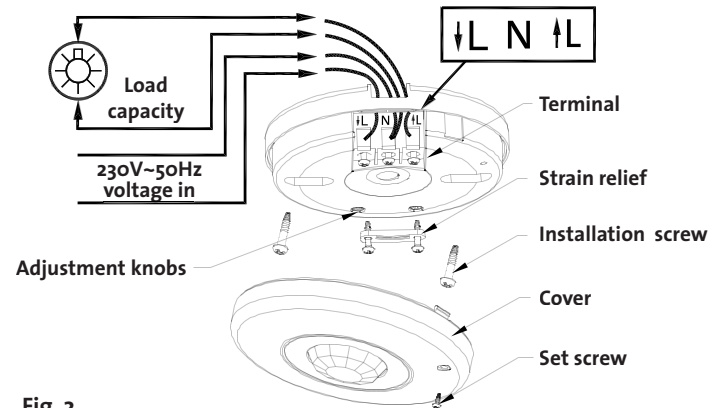

Fig. 2
5. Connect the cable to the terminals and fix the cable with the strain relief (please refer to Fig. 2).